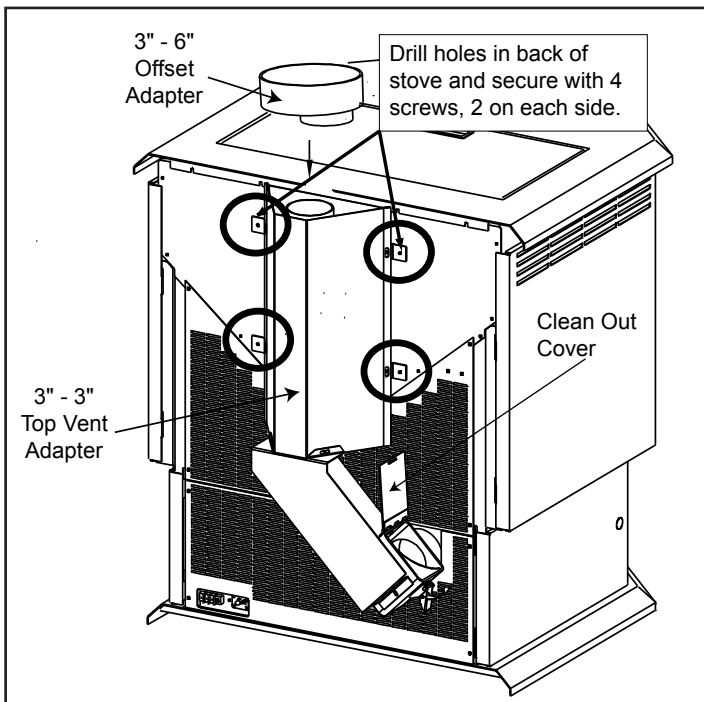

Figure 19.1
3. Drill 4 holes with #26 drill bit (provided) into the back of the appliance using the outer shield as a pattern (make sure the assembly is vertical). **Figure 19.1**
6. To clean the top vent adapter, open the clean-out cover. **See Figure 19.1**